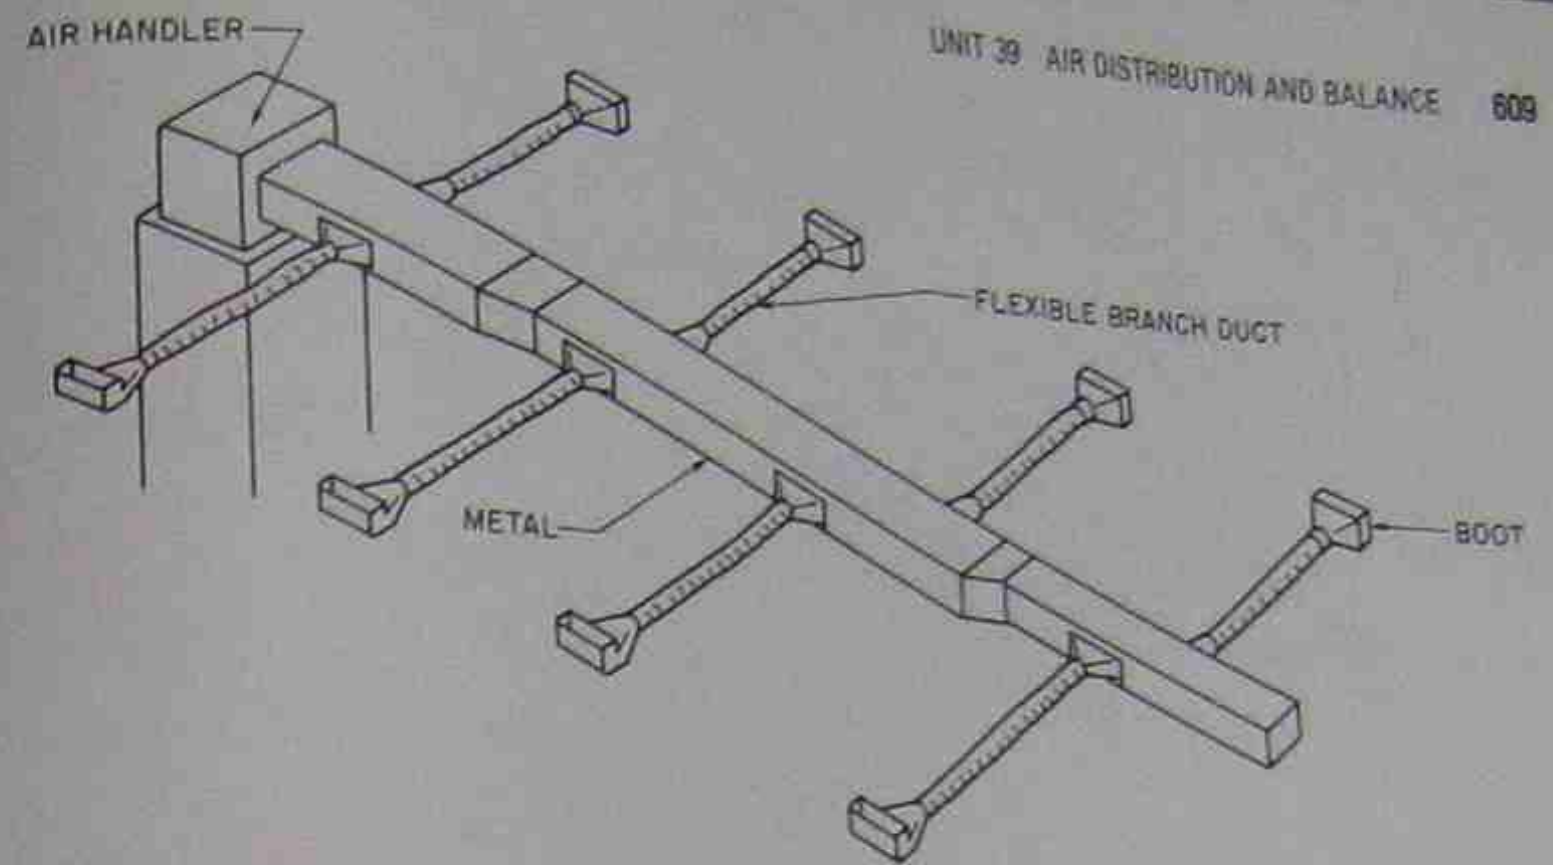

Figure 39-37. Metal trunk duct with flexible branch ducts.
4. Metal trunk lines with flexible branch duct, Figure 39-37.